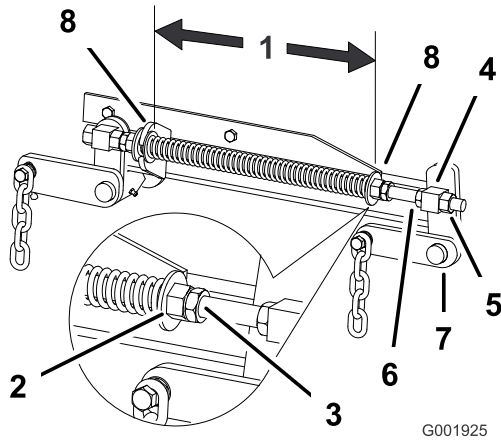

Figure 58
2. Check the distance between the two large washers, it needs to be 11-1/8 inches (28.2 cm) for 52 inch mower decks and 10-1/2 inches (26.7 cm) for 60 inch mower decks (Figure 58).
3. Adjust this distance, by loosening the spring jam nut and turning the nut in front of each spring (Figure 58).
4. Lock the nut into position by tightening the spring jam nut (Figure 58).